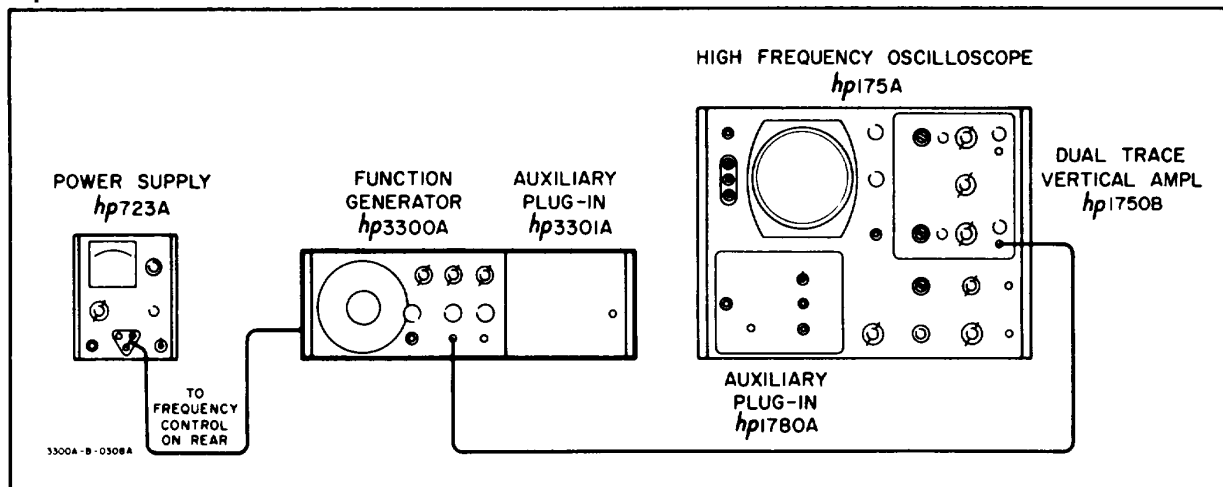

Figure 5-2. Remote Frequency Control Test Setup
- b. Connect the instruments as shown in Figure 5-2. Remove FREQ. DIAL-to-FREQ. CONTROL shorting bar.